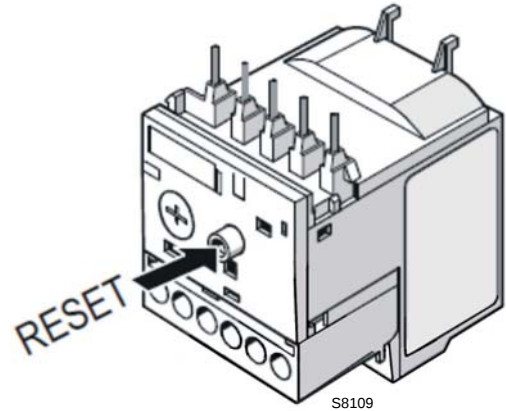

Fig. 30
- To reset, in the case of an intervention of the thermal relay, press the button **"RESET"** (Fig. 30).